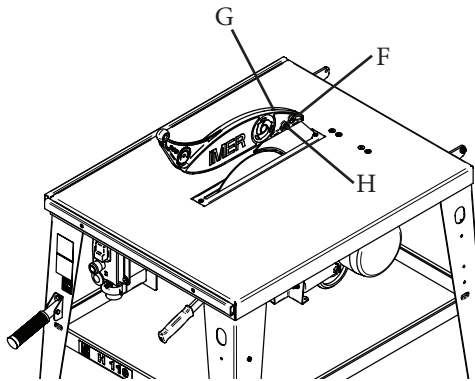

Fig. 6
The part of the blade which projects above the table is protected by a guard in polycarbonate [4] (fig.1). The guard is anchored to the riving knife with two bolts [F] (fig.6).
- tighten the screw [G] (fig.6) and the self-locking nut [H] (fig.6) so that the blade protection remains blocked in the raised position;